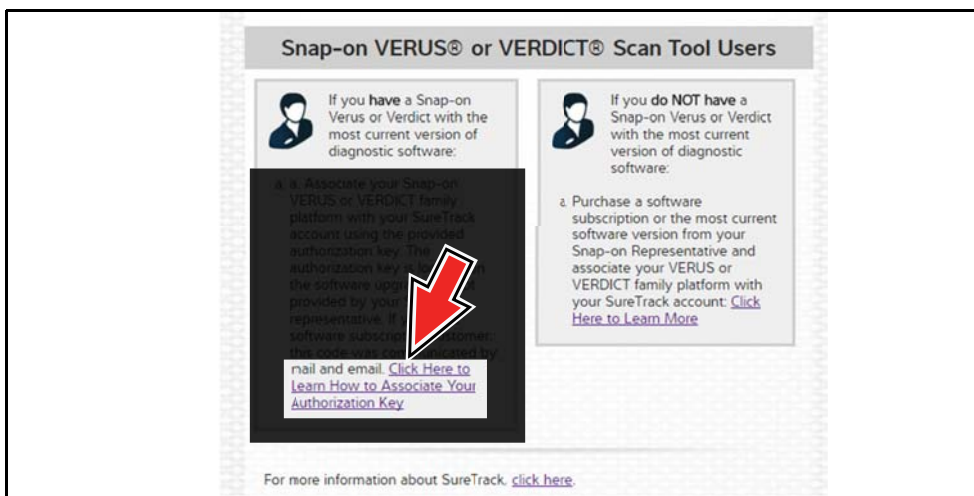

Figure 10-15
When your SureTrack account has expired, and you try to login you are directed to an information window (Figure 10-15).
2. Scroll down and select the link shown in (Figure 10-15)